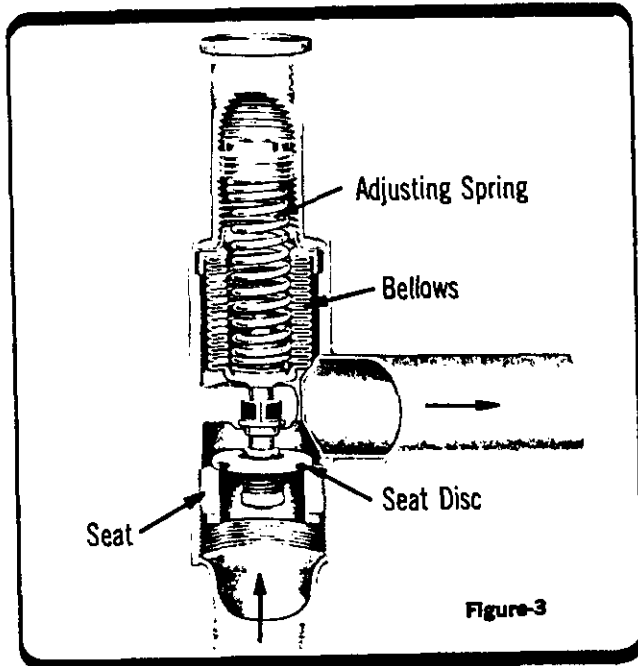

Figure-3
**ORI VALVE OPERATION** - The ORI head pressure control valve is an inlet pressure regulating valve and responds to changes in condensing pressure only. The valve designation stands for Opens on Rise of Inlet pressure. As shown in Figure-3, the outlet pressure is exerted on the underside of the bellows and on top of the seat disc. Since the effective area of the bellows is equal to the area of the port, the outlet pressure cancels out and the inlet pressure acting on the bottom of the seat disc opposes the adjusting spring force. These two forces are the operating forces of the ORI.